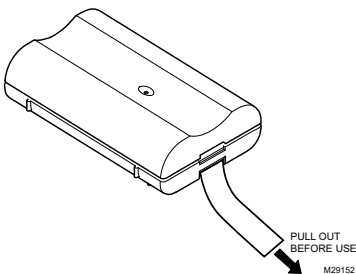

Fig. 6. Battery tab removal.
1. Remove battery tab before installation. See Fig. 6.
1. Remove the battery tab from the sliding door/window sensor. See Fig. 6 on page 5.